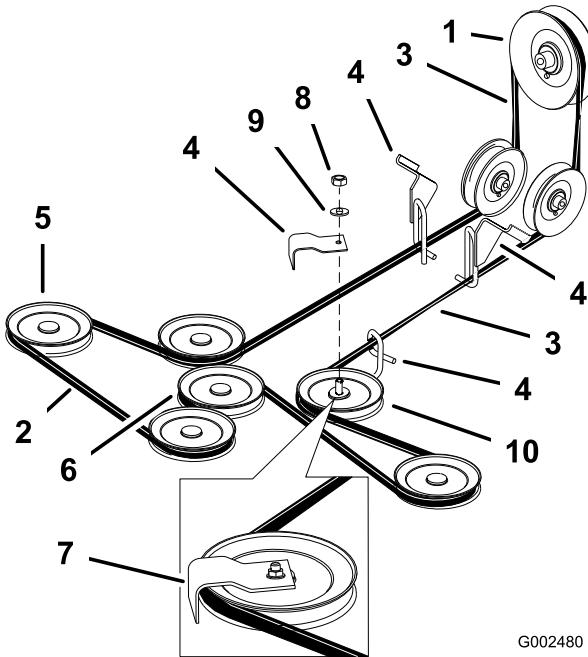

Figure 54
4. Loosen the nut securing the idler plate and move the idler plate to relieve the belt tension on the idler pulley (Figure 54).
6. Remove the mower belt from the belt guides and remove the belt (Figure 54).
7. Install the new mower belt around the mower spindle pulleys, mower idler pulley, into the belt guides, into rear idler arm assembly, and the clutch (Figure 54).
**Note:** Check the amount of twist in the belt between the pulleys. Ensure it is only what is specified in Figure 54.
**Important:** Check the amount of twist in the belt between the pulleys. Make sure it is only what is specified in Figure 54.